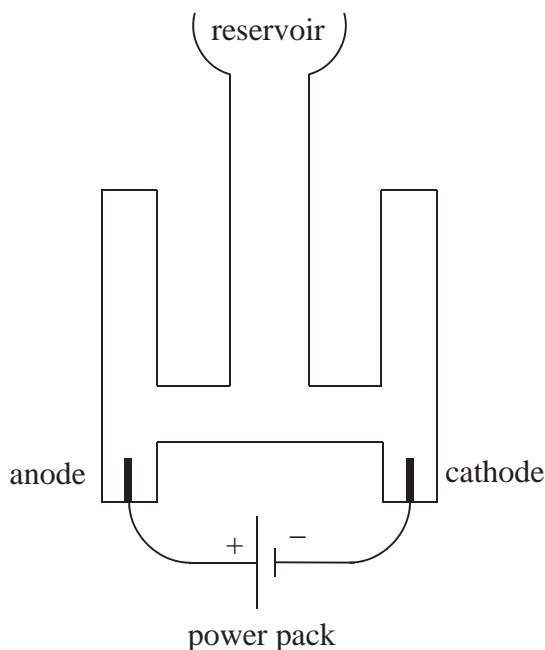

Figure 2: Set up of the electrolysis unit (Hoffman voltameter)
- (E2) Place the solution in the electrolysis unit (Figure 2). Bend the rubber tubing over on the top of each arm of the electrolysis unit and clamp it to avoid gas escaping. Have the apparatus checked by your demonstrator.